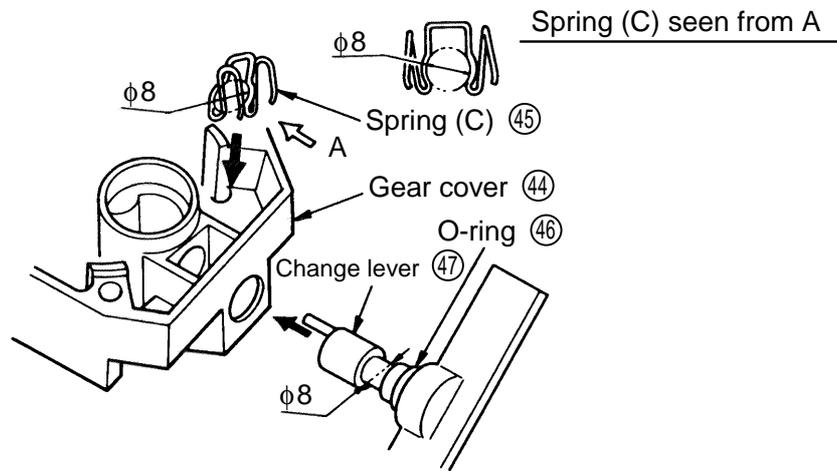

Fig. 11
- Assembly of the change lever (B)
Attach the O-ring ④⑥ to the change lever (B) ④⑦ and insert the lever into the gear cover ④④. Hold the spring (C) ④⑤ as shown in Fig. 11 and push it in the direction of the arrow with a minus screwdriver so that the $\phi 8$ parts of the spring and change lever are engaged.